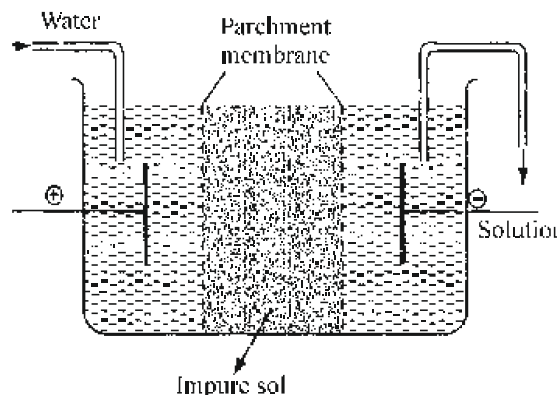

Fig. 5.13 : Electro Dialysis process
2. **Electro Dialysis–** The ordinary process of dialysis is slow. To increase the process of purification, the dialysis is carried out by applying electric field. This process is called electro dialysis and is shown in Fig. 5.13